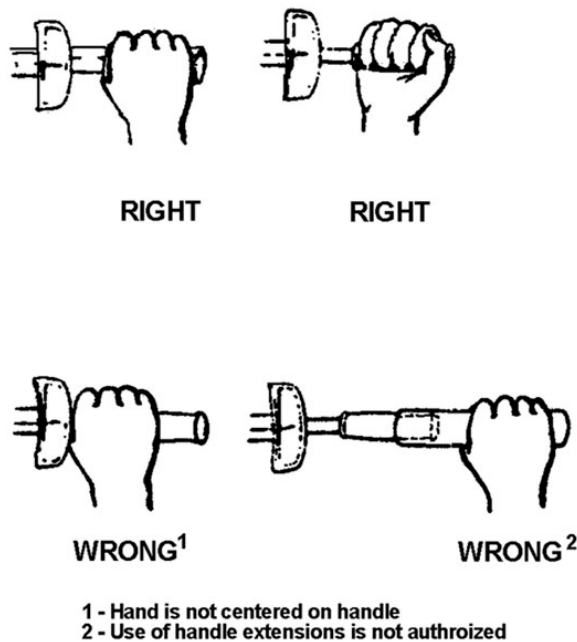

Figure 3-4. Right and wrong ways to hold a torque wrench.
- While holding a torque wrench, apply force to the torque wrench handle by pulling slowly and with steadily increasing force (fig. 3-4). When torqueing bolts installed with nonfixed nuts, restrain the bolt or nut from turning and apply torque.